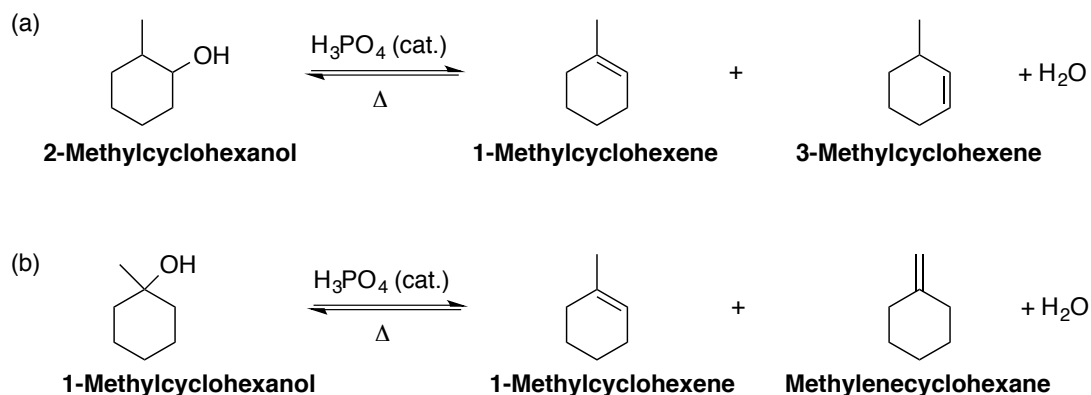

Figure 1. Dehydration of methylcyclohexanols
In this experiment, students will perform the acid-catalyzed dehydration of either **1-** or **2-methylcyclohexanol** (Figure 1). Students are assigned an alcohol starting material at the beginning of lab. The pre-lab questions should address both reactions to be prepared for either. The elimination reactions have two possible regioisomeric products. The major and minor products can be predicted according to Zaitsev's rule, which states that a more highly substituted alkene is more stable and favored. Students use gas chromatography (GC) to analyze the reaction mixture and compare to the retention times of commercially available standards to confirm their hypotheses. In addition, students confirm the presence of an alkene in the product with the potassium permanganate (KMnO₄) chemical test. KMnO₄ is lovingly called the "Barney reaction." It starts off dark purple and turns brown with the formation of a precipitate (MnO₂). Refer to the McMurry or Klein text for further discussion of the permanganate-mediated oxidative cleavage reactions.